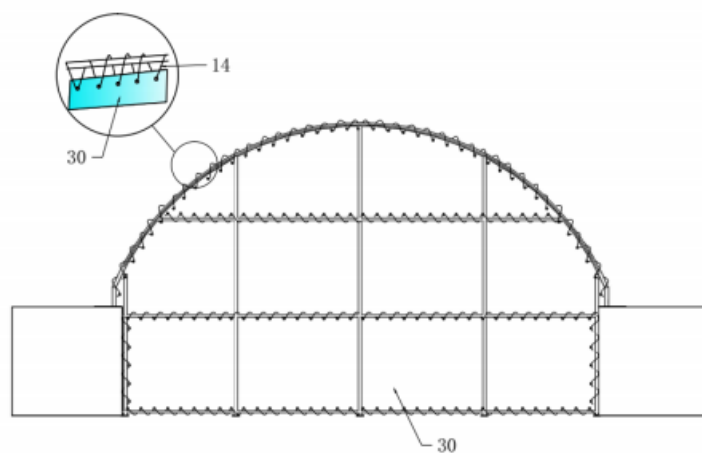

Figure 11
- Please install the back cover following Figure 11, Put on the back cover (NO.30)and fix it by using rope (NO. 14).